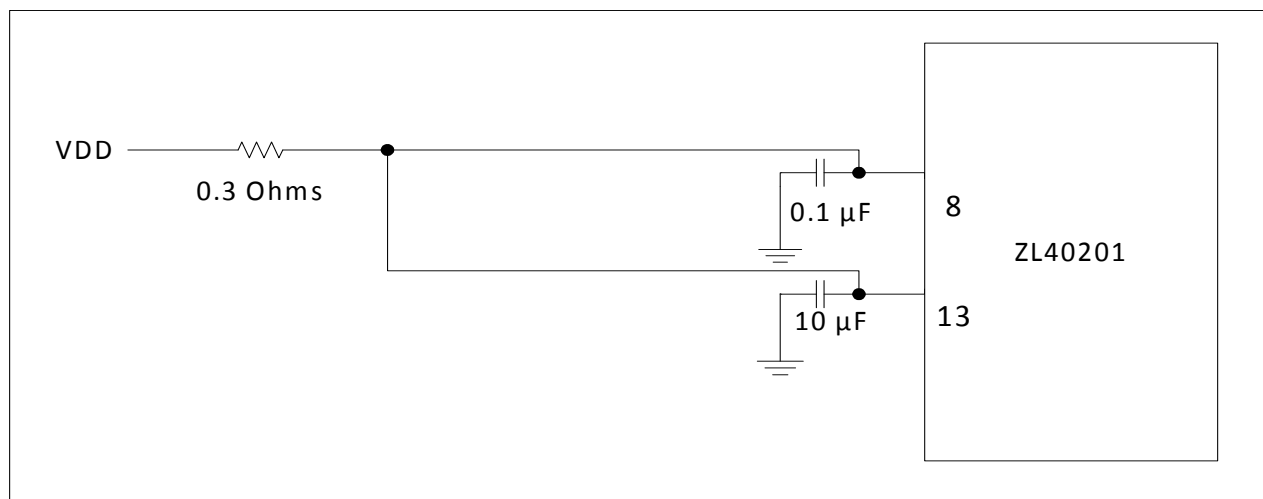

Figure 19 - Decoupling Connections for Power Pins
For optimal jitter performance, the device should be isolated from the power planes connected to its power supply pins as shown in Figure 19.
- a 0.3 ohm resistor is recommended for the filter shown in Figure 19
The power nets in Figure 19 can be implemented either as a plane island or routed power topology without changing the overall jitter performance of the device.